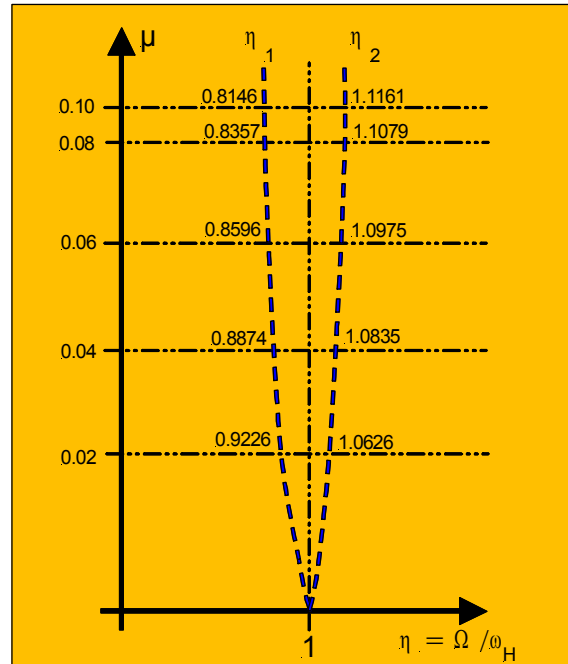

Fig. 5: Frequency range with respect to μ
- Mass:** The mass ratio (μ) of the TMD mass to the kinetic equivalent structural mass has to be sufficient. For small ratios ($\mu \leq 0.025$) big vibration amplitudes of the TMD mass relatively to the structure are resulting. This can create a space problem for proper integration of the TMD into the available structural gap, but also the TMD gets usually much more expensive due to more and bigger springs. In addition a small mass ratio is decreasing the effective range of the TMD (Fig. 5). The TMD mass movements are significantly smaller for bigger ratios ($\mu > 0.025$) and the effective range for a 100% TMD efficiency around the resonance frequency is greater, too.
For small mass ratios (ca. $\mu < 0.04$) the effective range of the TMD is limited. This means, that in case of environmental temperature changes, structural fatigue, etc.. the natural frequency of the structure is changing, the efficiency of the TMD with a μ less than 4% is influenced and decreased more than for bigger mass ratio values (see Fig. 5).